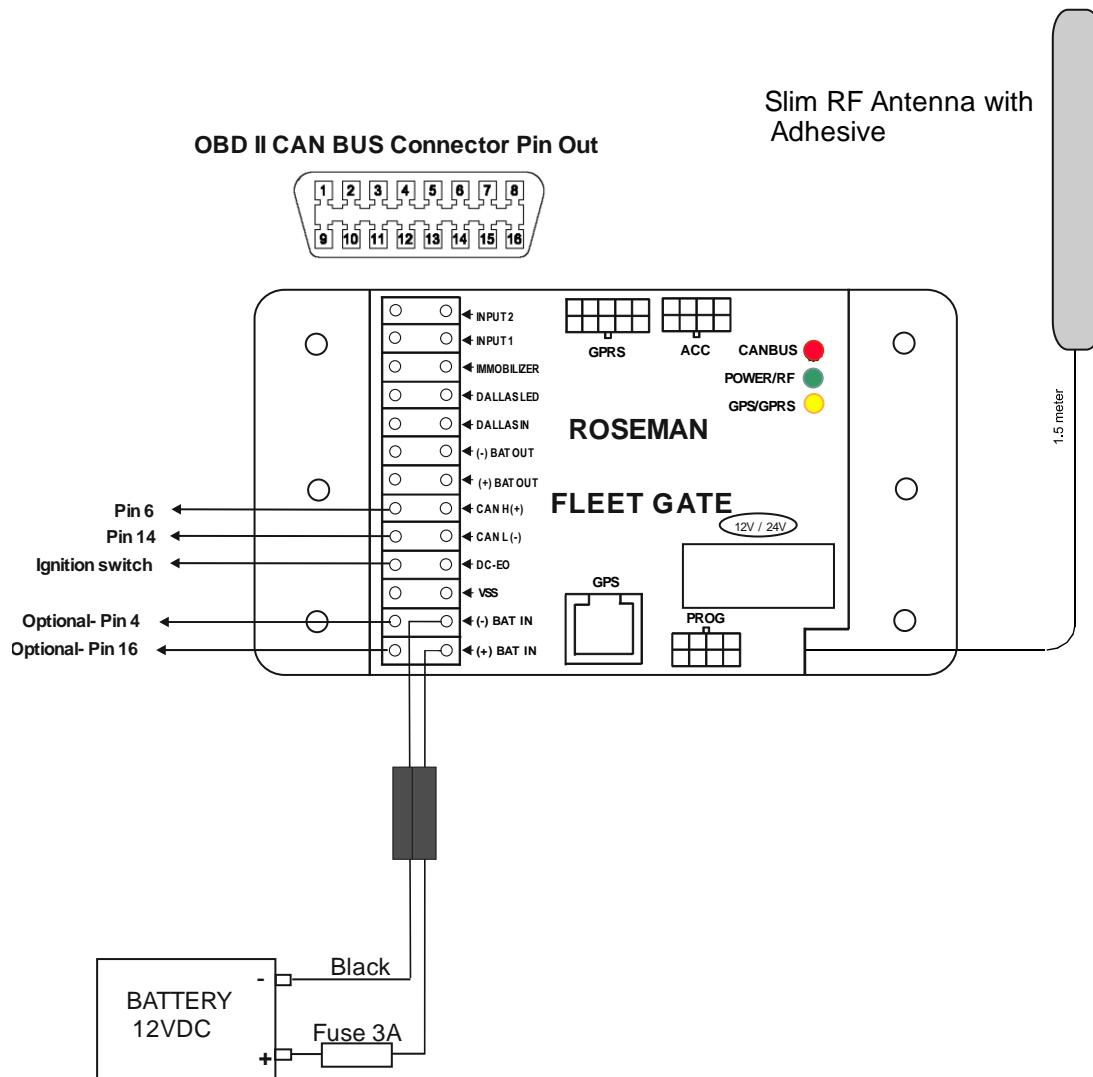
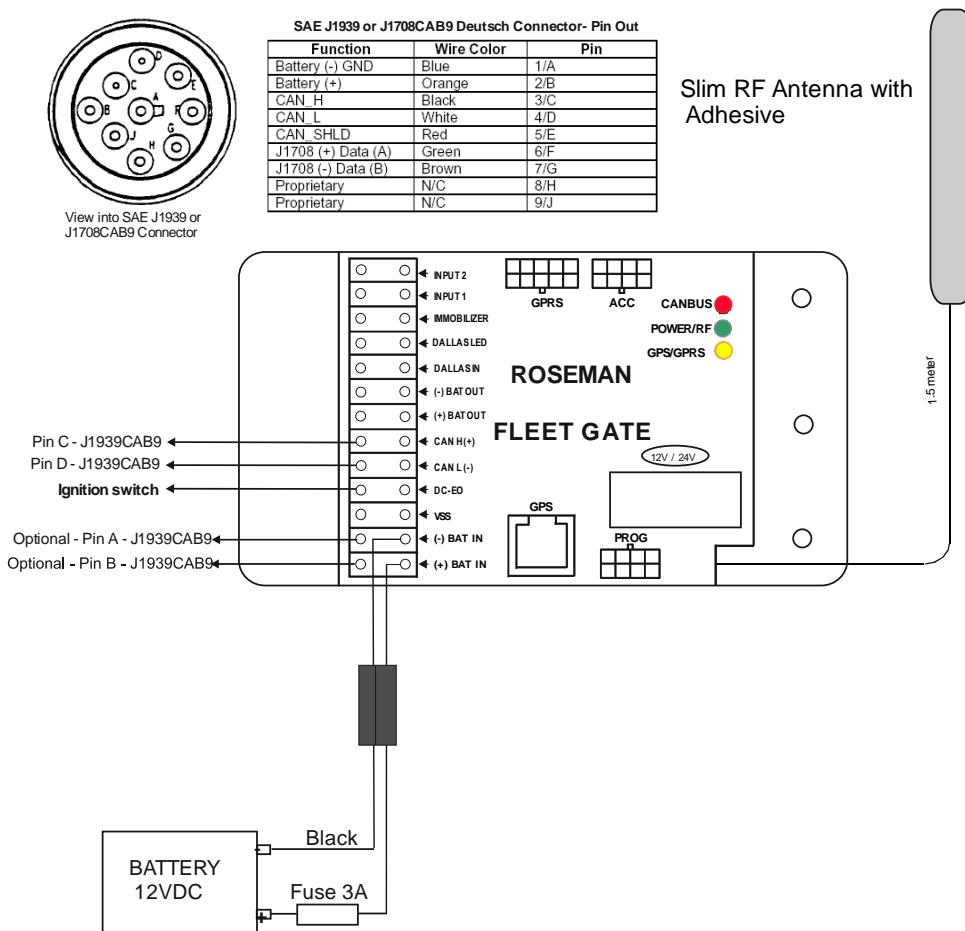
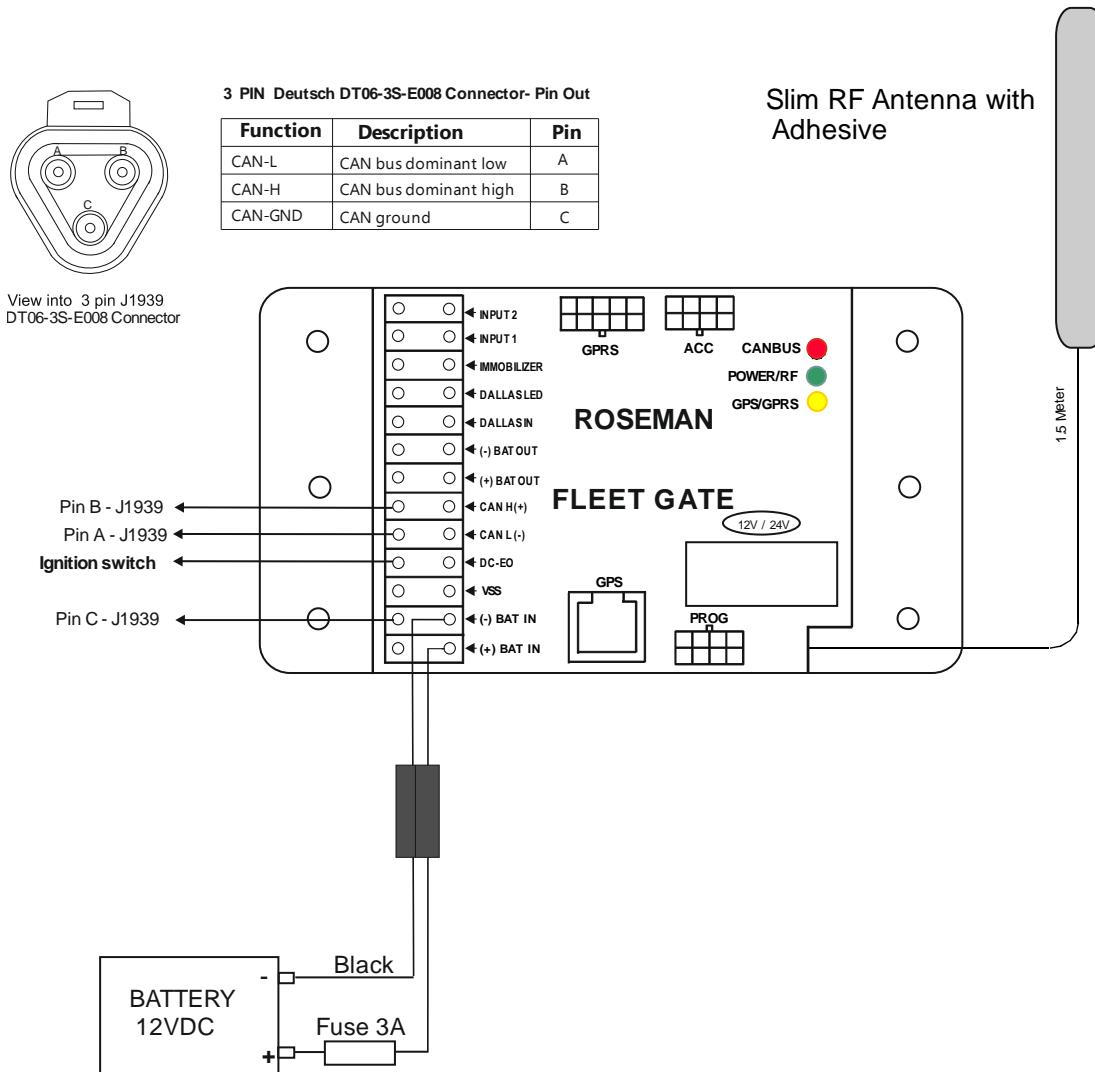

Figure 5: Wiring Diagram for FG3 with CAN Bus Interface for Light Duty Vehicles
Figure 6: Wiring Diagram for FG3 with CAN Bus Interface for Heavy Duty Vehicles
Figure 7: Wiring Diagram for FG3 with CAN Bus Interface (3-pin connector) for Heavy Duty Vehicles
1. Run a wire from the vehicle ignition switch (or start/stop button on some hybrid models) to the DC-EO terminal on the FG3 (refer to Figure 5: Wiring Diagram for FG3 with CAN Bus Interface for Light Duty Vehicles, Figure 6: Wiring Diagram for FG3 with CAN Bus Interface for Heavy Duty Vehicles, Figure 7: Wiring Diagram for FG3 with CAN Bus Interface \(3-pin connector\) for Heavy Duty Vehicles)